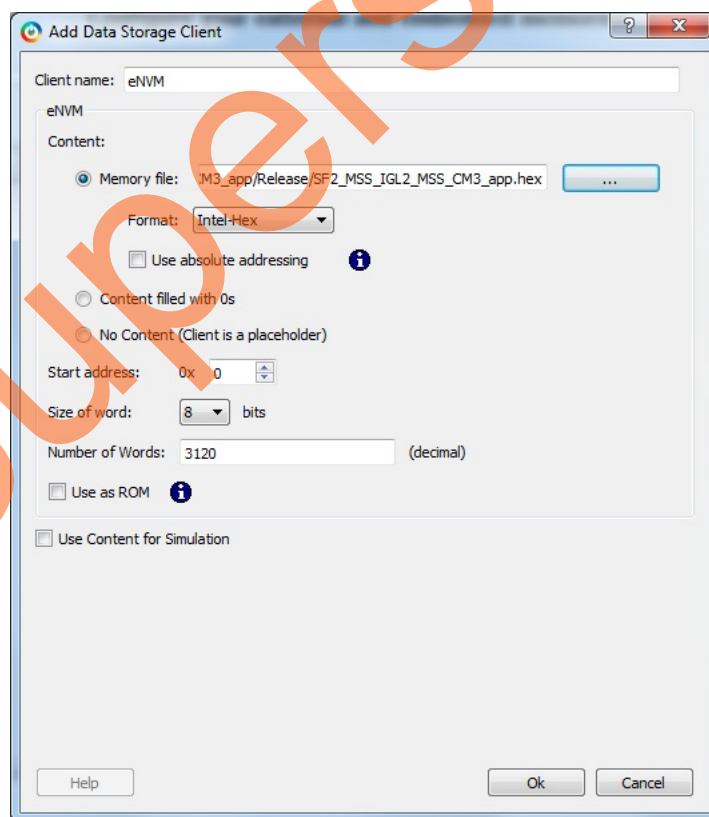

Figure 44 • Add Data Storage Client
19. Click **OK** in the **Add Data Storage Client** window as shown in Figure 44.